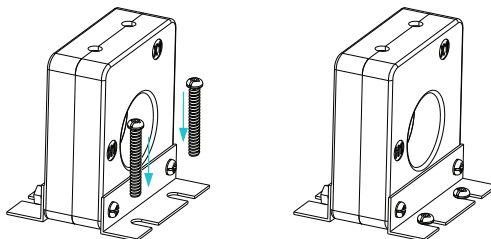

Figure 6 Mounting Screw in CT Mounted to Panel or Backplate
2. Insert all mounting screws loosely for easy alignment as depicted in Figure 6.